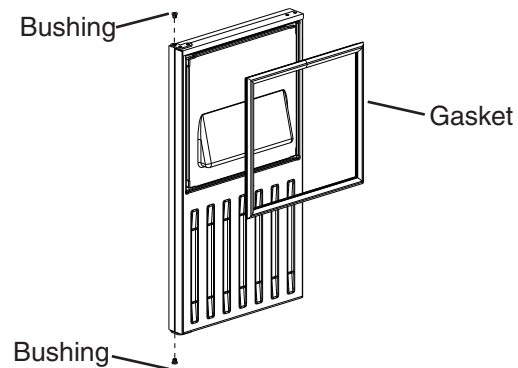

Fig. 20
- 8) Replace the door gasket in its proper orientation. Reinsert the bushings into hinge (C1) and hinge (C2) (the hinges attached to the door). See Fig. 20.